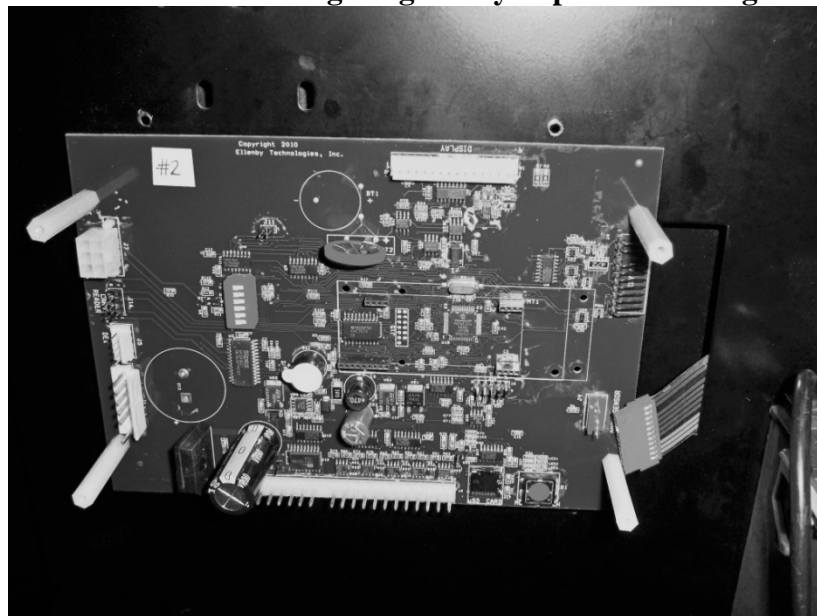

Figure 5
5. Install the new control board pn 10-0260-00 onto the standoff's and secure with 4 of the 1.5" long standoff's as shown in Figure 5, make sure board is oriented correctly with the Keypad header to the right. **The 1.5" standoffs should be finger tight only to prevent damage to the threads.**